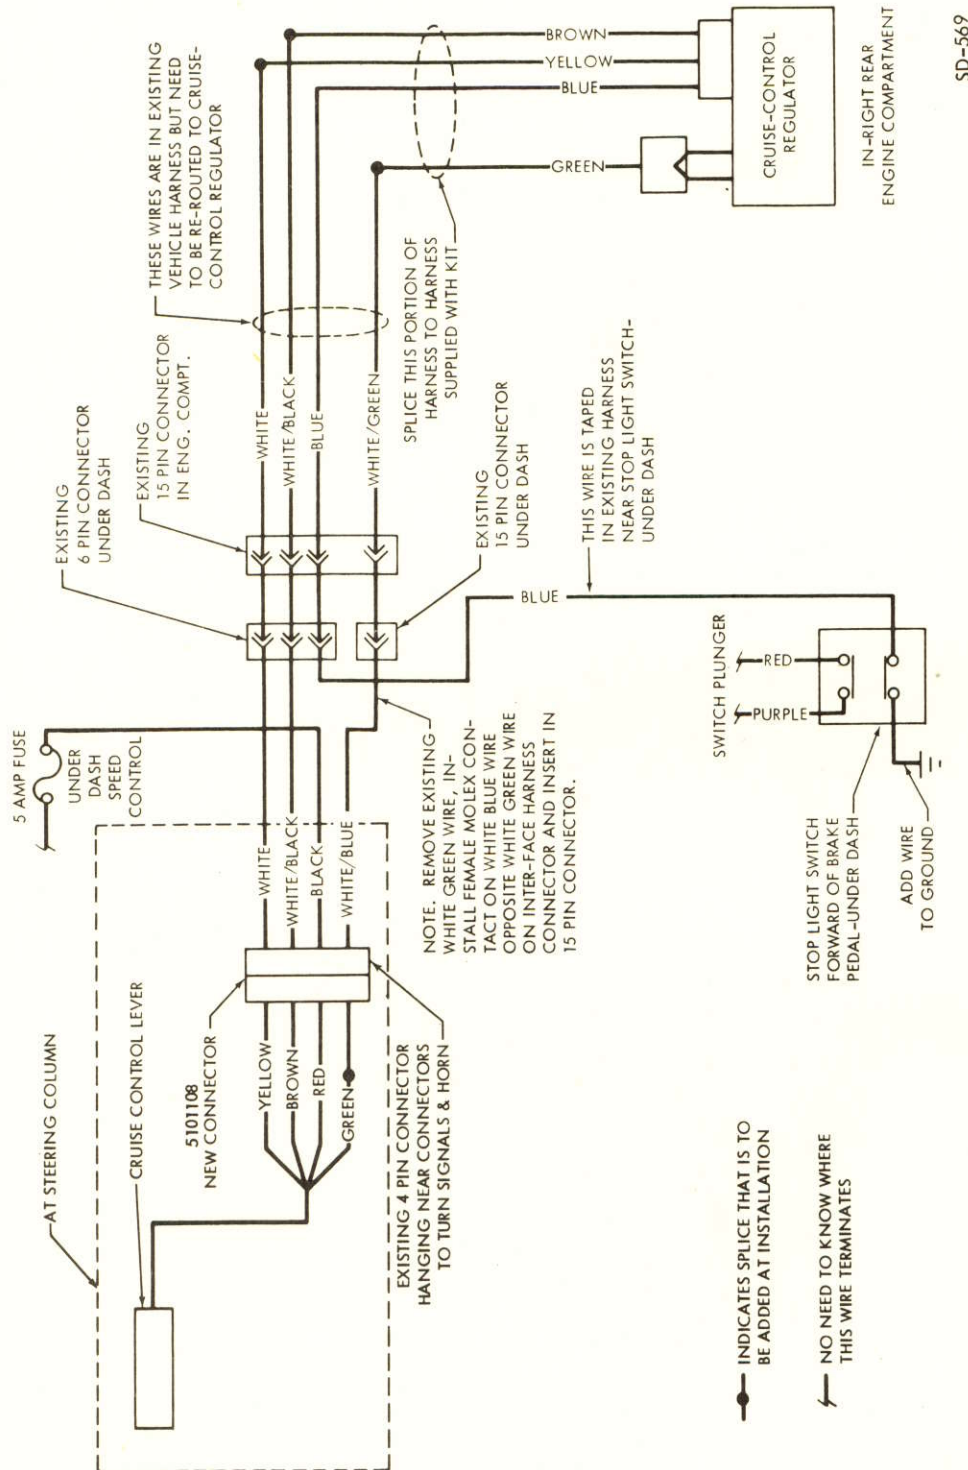

FIGURE 3. CRUISE CONTROL WIRING DIAGRAM
31. Check all wiring connections per Figure 3.